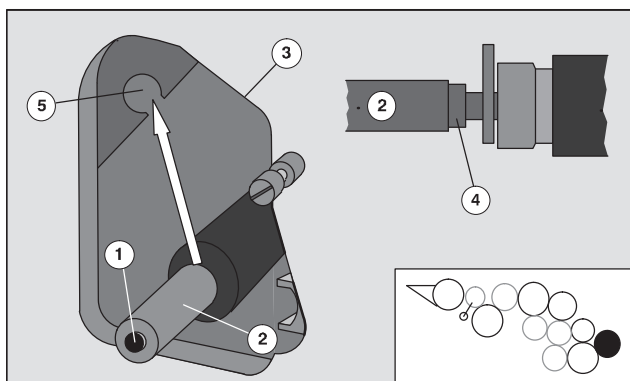

Fig. 36 Inserting the 3rd inking form roller
2. Slide the inking form roller through the opening in the side frame (Fig. 36/3) onto the shaft up to stop.
3. Slide the handle sleeve (Fig. 36/2) onto the shaft.
4. Swivel the roller upwards. Slide the thinner side of the sleeve (Fig. 36/4) into the recess of the bearing plate (Fig. 36/5).
5. Screw in the Allen screw (Fig. 36/1) and tighten.